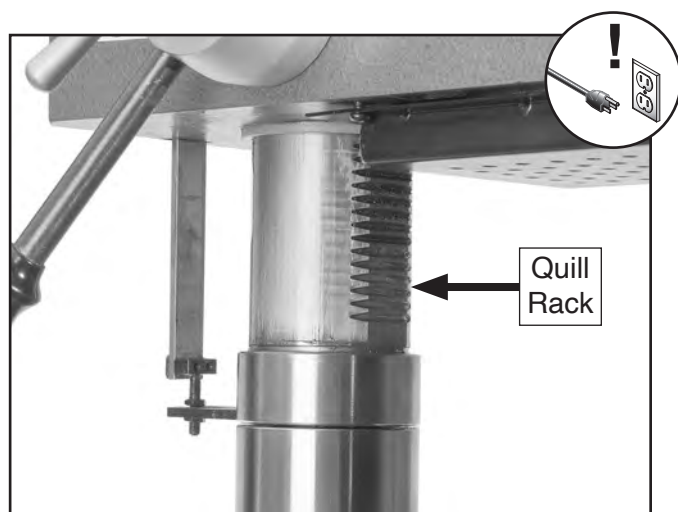

Figure 55. Location of quill rack.
1. Lower quill to gain full access to quill rack (see **Figure 55**). Lock in position.